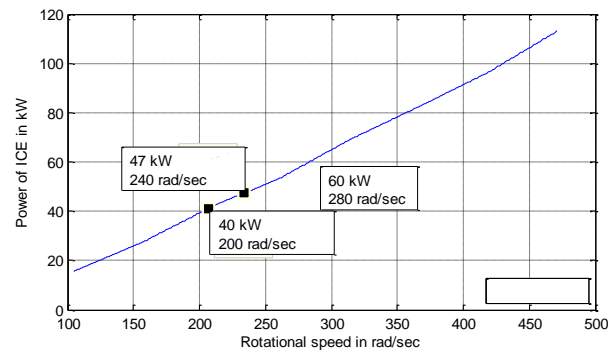

Fig. 3. Maximum efficiency line of the ICE.
*Hint: Efficiency of the ICE is an important criteria in power management. In Prius, the ICE is the main power source but its shaft is not directly coupled to the wheels. Therefore, the speed of the ICE can be chosen independent of the driving speed. Once the power and speed of ICE are known, power distribution between generator and ring gear can be calculated. This configuration is also called power-split hybrid because the power of ICE splits between ring and sun gears. The power versus speed characteristic at maximum efficiency of the internal combustion engine is shown in Fig. 3. Select the optimal operating point for the ICE according to the characteristic line, then calculate the other torque and rotational speed values.*